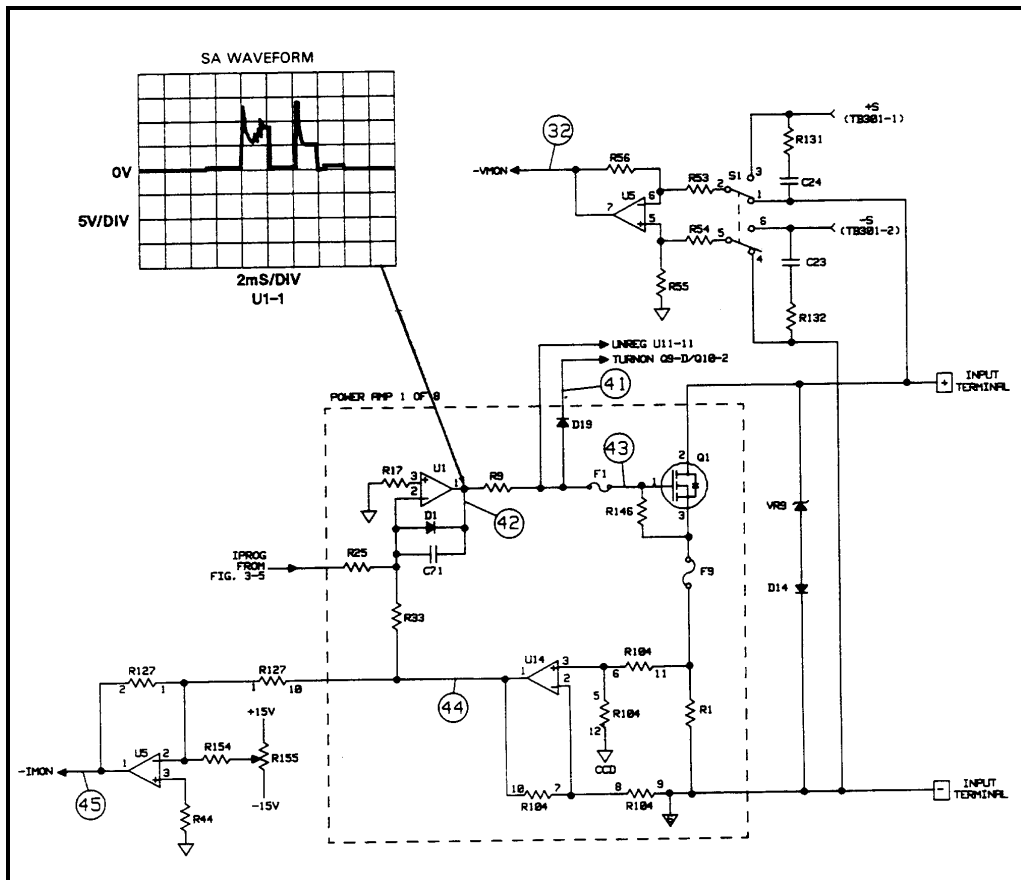

Figure 3-6. Input Power Stages Troubleshooting
## Input Power Stages Troubleshooting (Figure 3-6)
There are eight identical input power stages connected in parallel. Figure 3-6 shows one of the eight. This stage consists primarily of a power FET (in quad array Q1), a monitor amplifier (U14) and an error amplifier (U1). Schematic details are shown on Figure 6-1, sheet 6.
To troubleshoot the input power circuits, place the Electronic Load in the S.A. mode by connecting the jumpers in test headers TP201 and TP301 in the S.A. mode positions (see Figure 3-2). The waveform shown in Figure 3-6 at the output of the error amplifier can only be generated in the S.A. mode. Check that this waveform appears at the output of the error amplifier in each input power stage. Refer to Figure 6-1, sheet 6 to locate the output pin of each error amplifier. Checking each stage may isolate the problem to a specific stage.
If the problem is isolated to a specific stage, turn the S.A. mode off (remove jumpers) and check the test points (41) through (44) that correspond with applicable circuit points in the defective stage. Use the measurement conditions specified in Table 3-3. Also, check the applicable fuses in the specific stage. As shown in Figure 3-6, fuses F1 and F9 are used by stage 1.